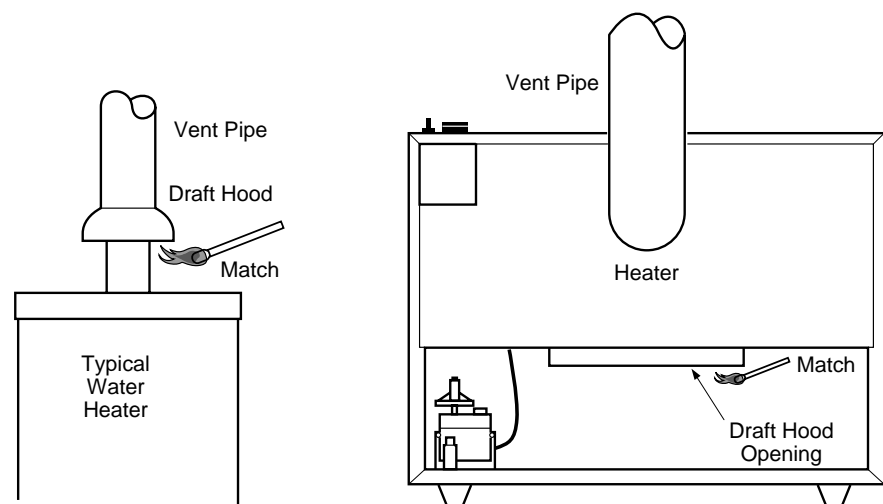

Figure 13 - Checking for Draft Spillage
6. Check for draft-hood spillage at each vented gas appliance. Do this by holding a lit match two inches from the draft opening (see Figure 13). If match flame pulls toward the draft hood, there is no spillage. If match flame blows away from the draft hood, there is spillage. This is a hazardous condition. See *Draft Hood Spillage*, page 18.